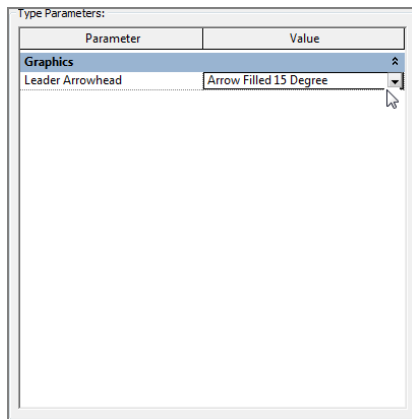

FIGURE 11.70: Changing the leader arrowhead is one of the first things you’ll probably have to do.
11. Change Leader Arrowhead to Arrow Filled 15 Degree, as shown in Figure 11.70.